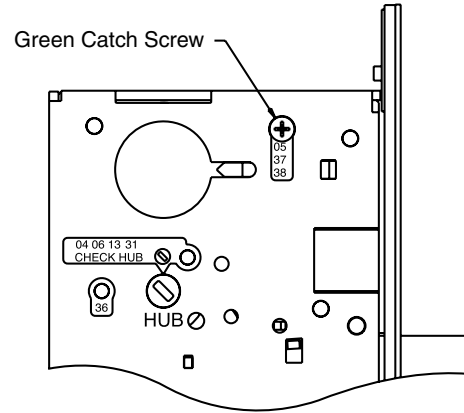

Figure 1
**WHEN MOVING GREEN CATCH SCREW TO 04, 06, 13 & 31 FUNCTIONS, HUB POSITION MUST BE AT 45° AS SHOWN ON LOCKCASE (FIGURE 1).**